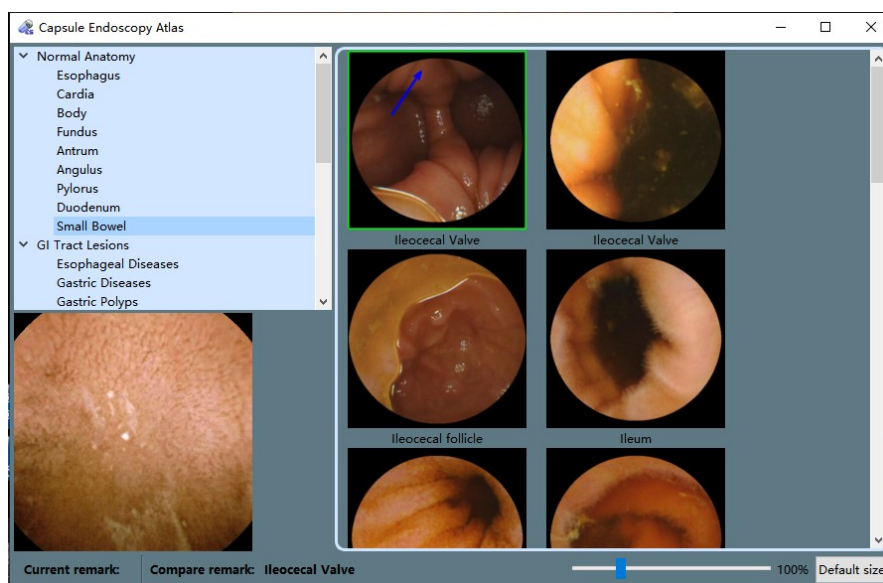

Figure 4-64: Capsule Endoscopy Atlas Interface
1. In the main software interface with an opened video, double click one image in the thumbnail area and select “Tool” → “Capsule endoscopy atlas” to access the capsule endoscope atlas interface (Figure 4-64).